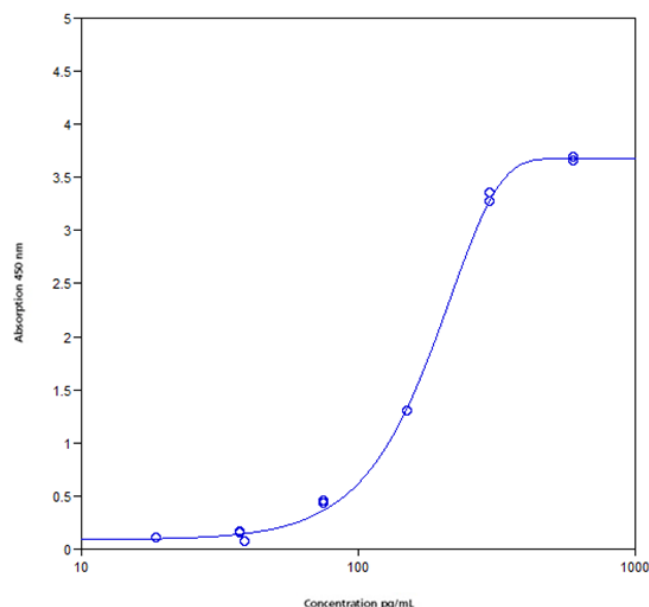

Fig. 7 Representative standard curve for Human PYY ELISA Kit. Human PYY was diluted in serial 2-fold steps in Sample Diluent.
- A representative standard curve is shown in Figure 7.